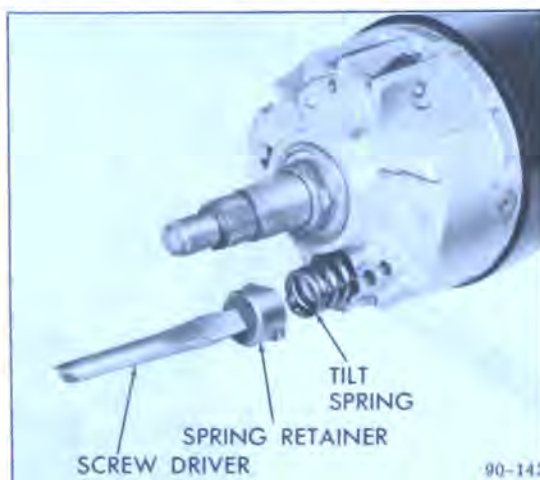

Figure 90-97 Releasing Tilt Spring
8. Install tilt release lever and place bearing housing assembly in full up position. Remove tilt spring retainer using screwdriver (see Figure 90-97). Depress retainer approximately 3/16 inch,